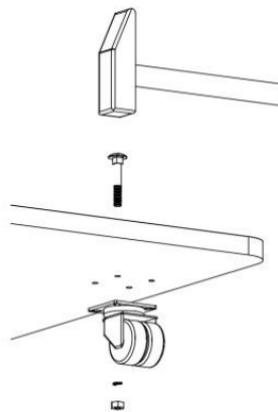

Figure 1: Attaching the double swivel castors
- ① 1 base panel
- ② 1 handlebar
- ③ 4 double swivel castors
- ④ 16 M6×30 coach bolts, DIN 603
- ⑤ 16 A6 spring lock washers, DIN 127
- ⑥ 16 M6 hexagon nuts, DIN 934
- ⑦ 4 M8×55 coach bolts, DIN 603
- ⑧ 4 A8 spring lock washers, DIN 127
- ⑨ 4 M8 hexagon nuts, DIN 934
First, attach the 4 double swivel castors ③ to the base panel ① (see figure 1).